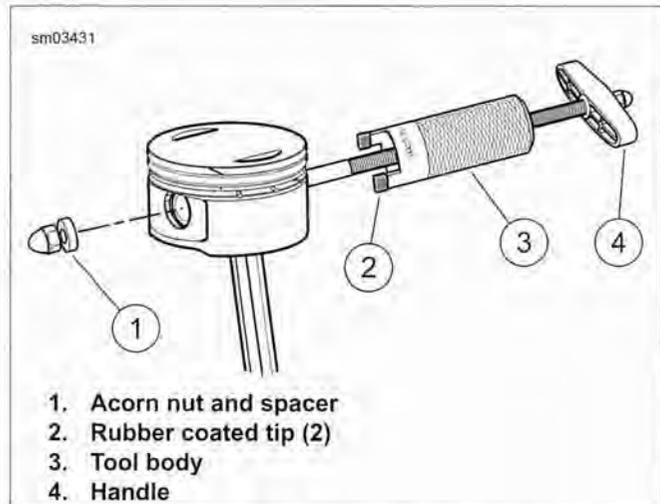

Figure 3-49. Removing Piston Pin with HD-42320-A Piston Pin Remover
- a. See Figure 3-49. Remove acorn nut and spacer (1) from rod end of tool.
- c. Position rubber coated tips (2) of tool on flat on each side of piston pin bore.
- d. Hold tool body (3) and turn handle (4) clockwise until piston pin is pulled free of bore.